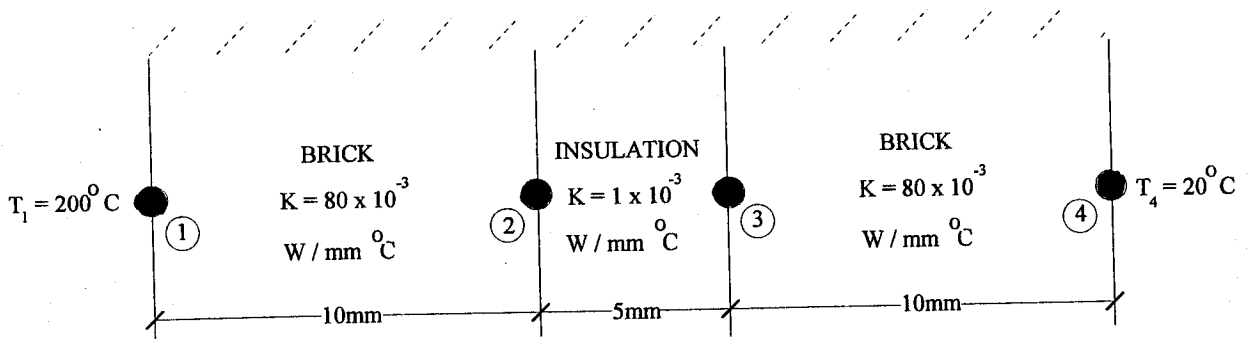

Figure 2
2. A composite wall is composed of three sections where a layer of insulation is sandwiched between two brick walls as shown in Figure 2.
You are required to develop a one-dimensional finite element solution for the temperature profile across the wall using one truss element per wall section as indicated on Figure 2 and to compute the following specific items: